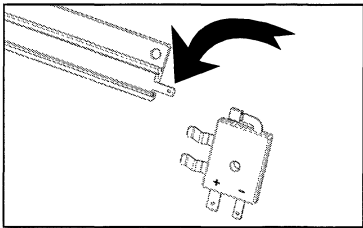
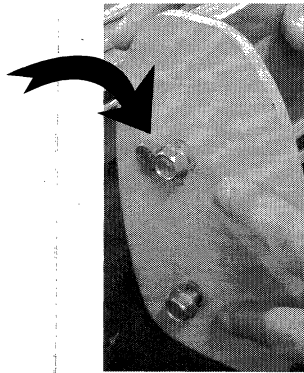

Fig. 4
Fig. 6
6. Attach charge contact to slow down (communications) strip (Fig. 4).
8. At bottom end of rail, slide charge contact assembly from Fig. 4 into back side of rail (Fig. 6). Assembly will fit snugly against charge strip carrier.
9. Use 1/2" socket to install two (2) 5/16" x 18 x 1" self-threading screws to mount the lower rail endplate (Fig. 6). A dab of grease will make installation easier.